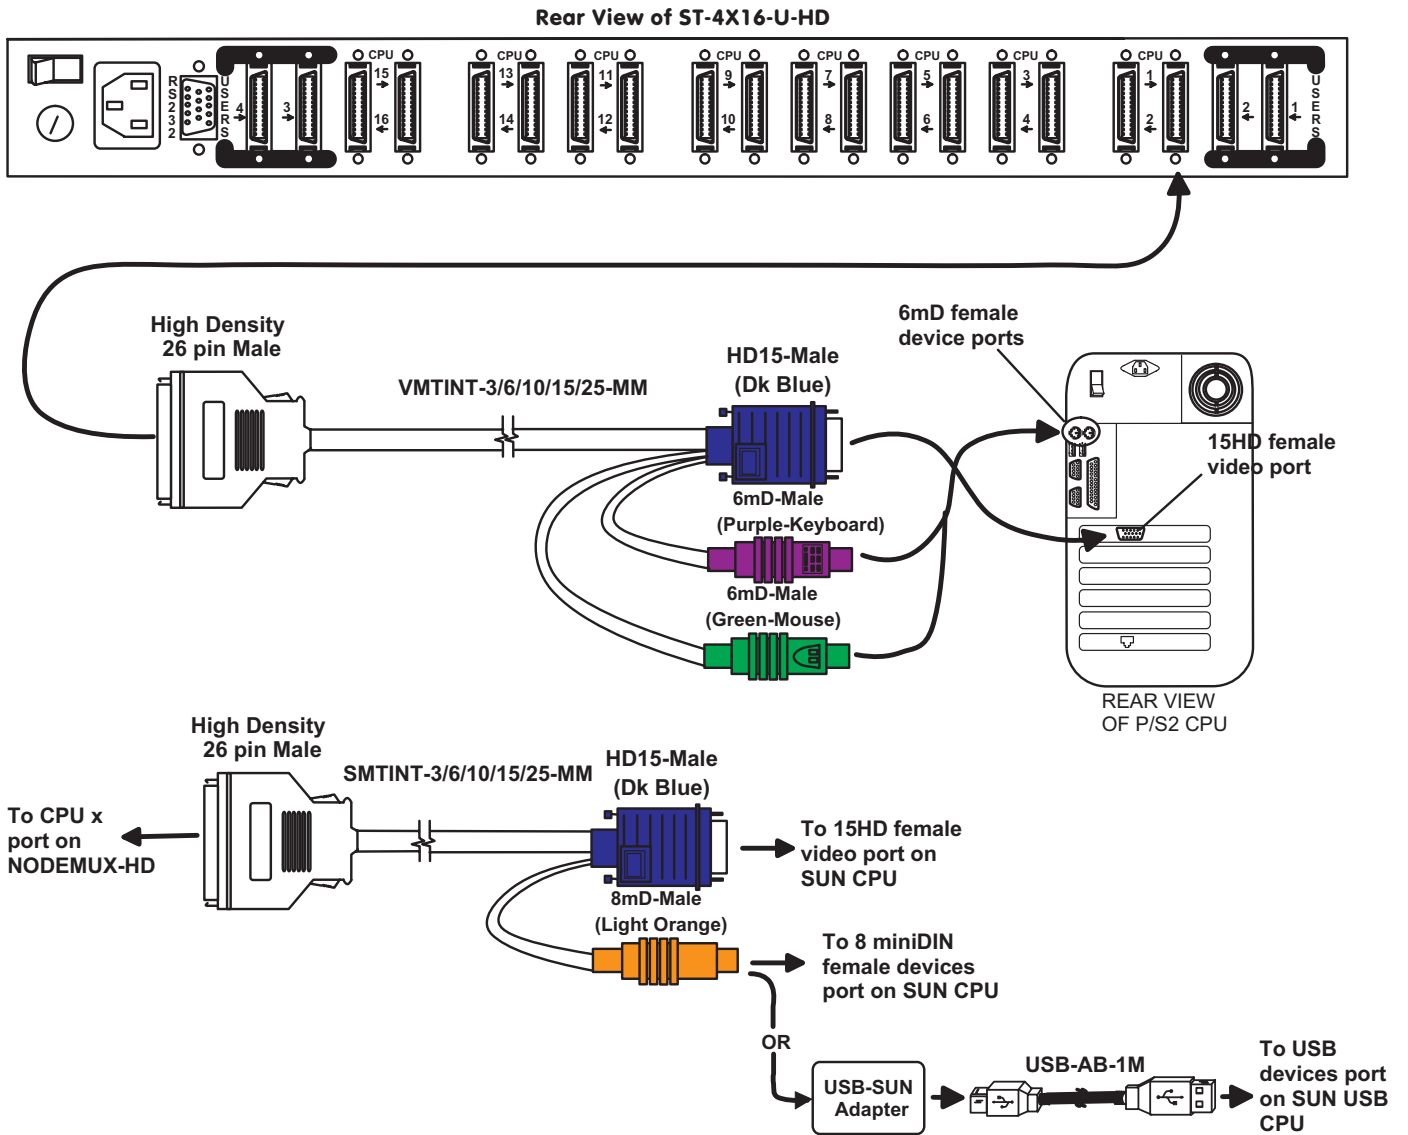

Figure 2- Connect CPUs to switch using interface cables
5. **For each CPU:** Connect a VMTINT-xx-MM (PS/2 CPU) or SMTINT-xx-MM (SUN CPU) or MMTINT-xx-MM (MAC CPU) cable to the devices port(s) and video port of the CPU as shown in Fig. 2.
NOTE: For USB SUN CPUs, a USB-SUN adapter and a USB-AB-Xm cable must be used to connect the SMTINT-xx-MM cable to the CPU. See Fig. 2.
6. Connect the high density end of each cable to a CPU x port on the ST-nXm-U-HD switch. See Fig. 2.